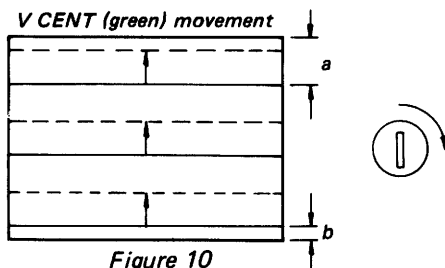

Figure 10
- 15) Adjust RV5 (V CENT (green)) so that a and b are equal as shown in Figure 10.